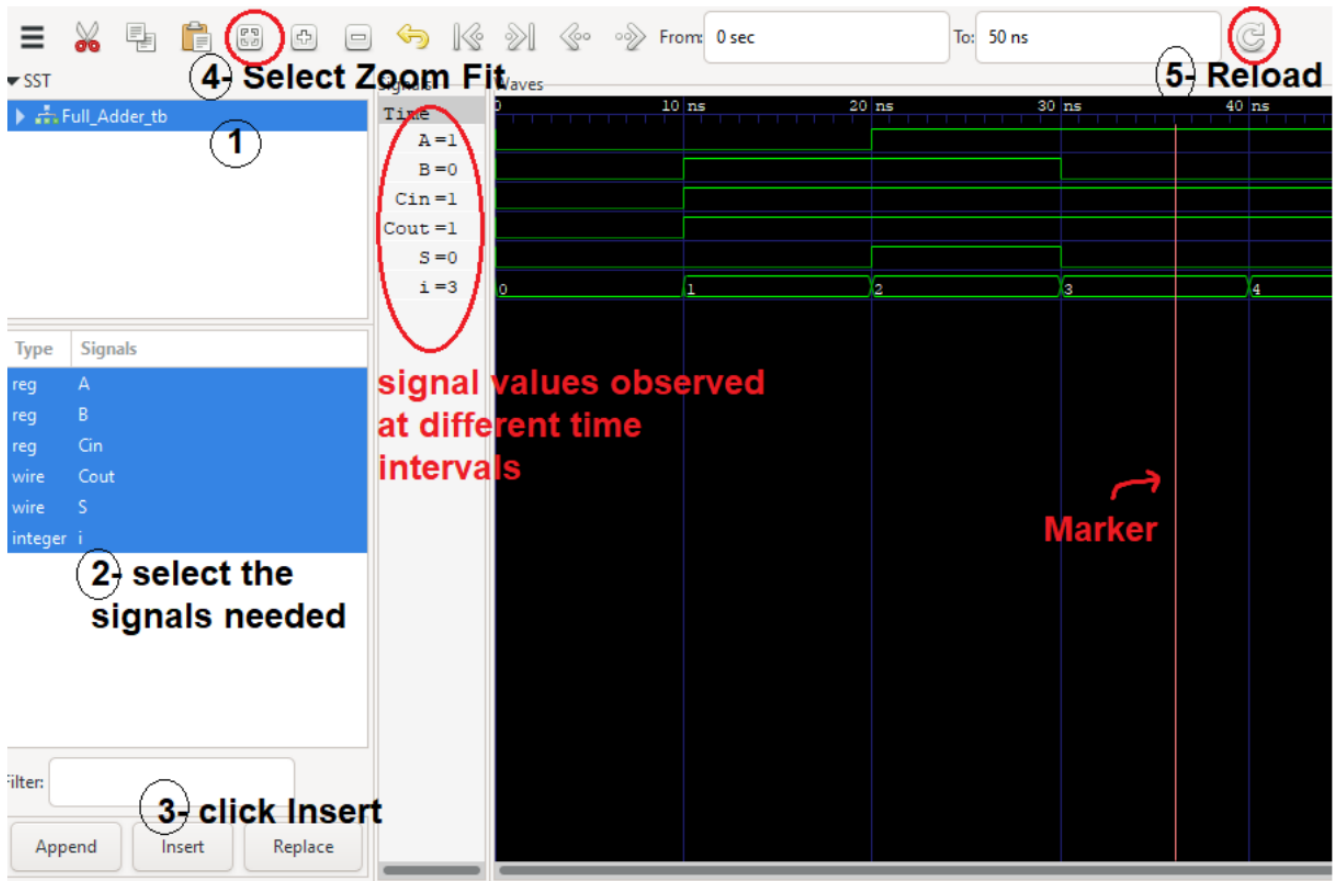

Figure 8: GTKWave Simulation Waveform
7. Load the signals in the GTKWave software the needs to be observed. After this step, you should observe green/red lines right side of the screen. Click 'Zoom Fit' to fir the waveforms in the selected size of the window and then click 'Reload' (see Figure 8).